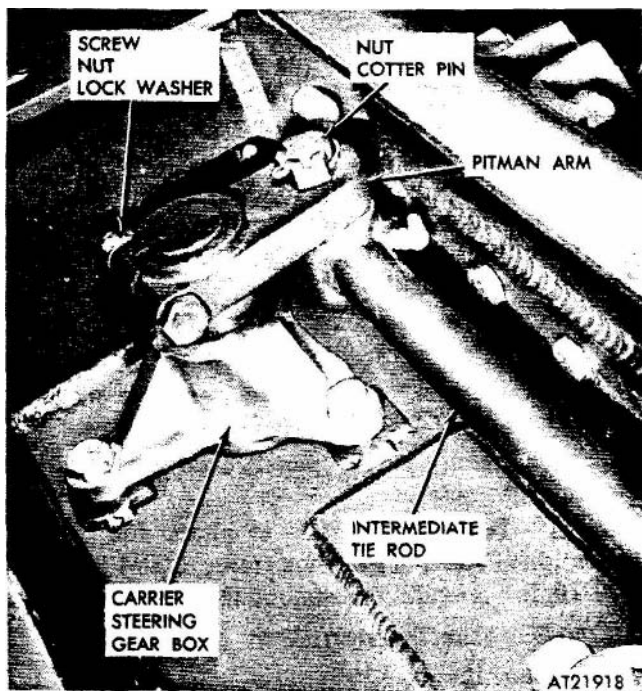

Figure 2-265. Carrier pitman arm, removal and installation.
(1) Remove nut and cotter pin securing pitman arm to *intermediate* rod assembly (fig 2-265).
(2) Remove nut, lock washer, and screw securing pitman arm to steering gear box.
(3) Remove pitman arm from steering gear shaft and intermediate rod.
(1) Position pitman arm on steering gear box shaft. Align slot in pitman arm with index mark on steering gear box shaft (fig 2-265).
(2) Secure pitman arm with screw, lock washer, and nut. Torque nut to 95-120 lbs-ft.
(3) Install seals on tie rod and intermediate rod. Position tie rod and intermediate rod to pitman arm and secure with two nuts and cotter pins.
(4) Test drive vehicle to check proper steering (refer to TM 9-2320-242-10 for operating instructions). If necessary, align wheels (refer to para 2-169).